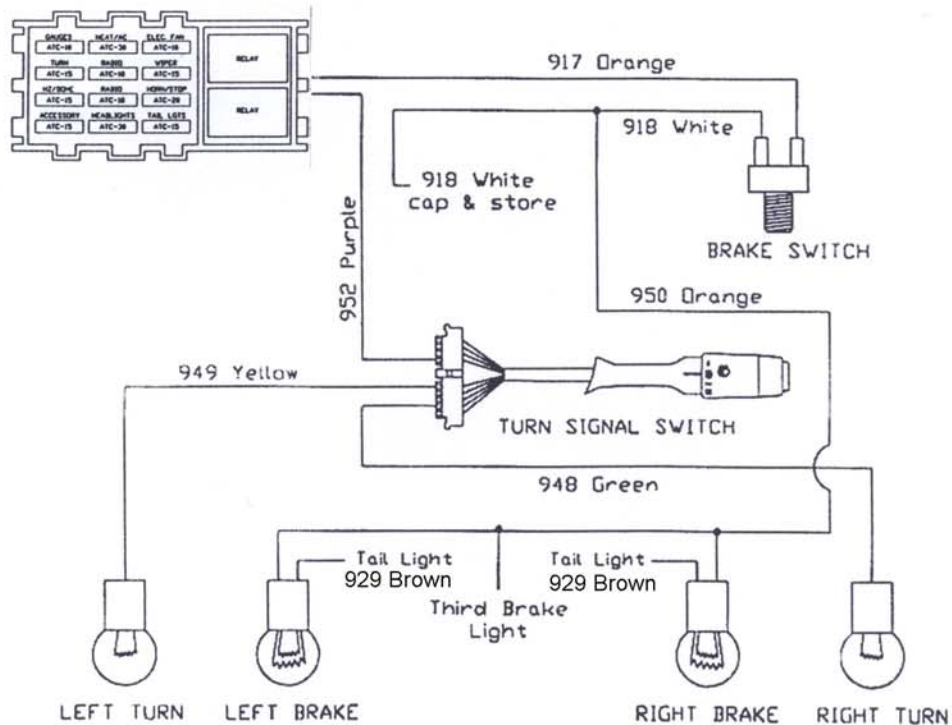

Figure 10-7 Integrated Brake Lights & Separate Turn/Brake Lights
- 10.9.2** These 4 wires will be connected according to one of the diagrams shown in **Figure 10-7**. Which diagram you will use depends on whether or not you have one bulb on each side of the vehicle that is for the brake/tail **and** Turn Signal Lights (this is referred to as integrated lights) **or** you have **more than one** bulb on each side **and** the Brake and Turn Signal Lights are hooked to different bulbs (referred to as separate Brake/Turn Lights).